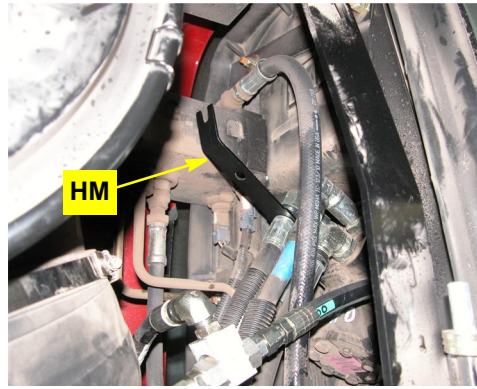

Figure 5a: Releasing STC fitting
- a. The pressure, tank and load sense connections on the machine's steering orbital are made with STC (snap-to-connect) fittings. Use STC release tool **HM** to disconnect these fittings (Figure 5a).